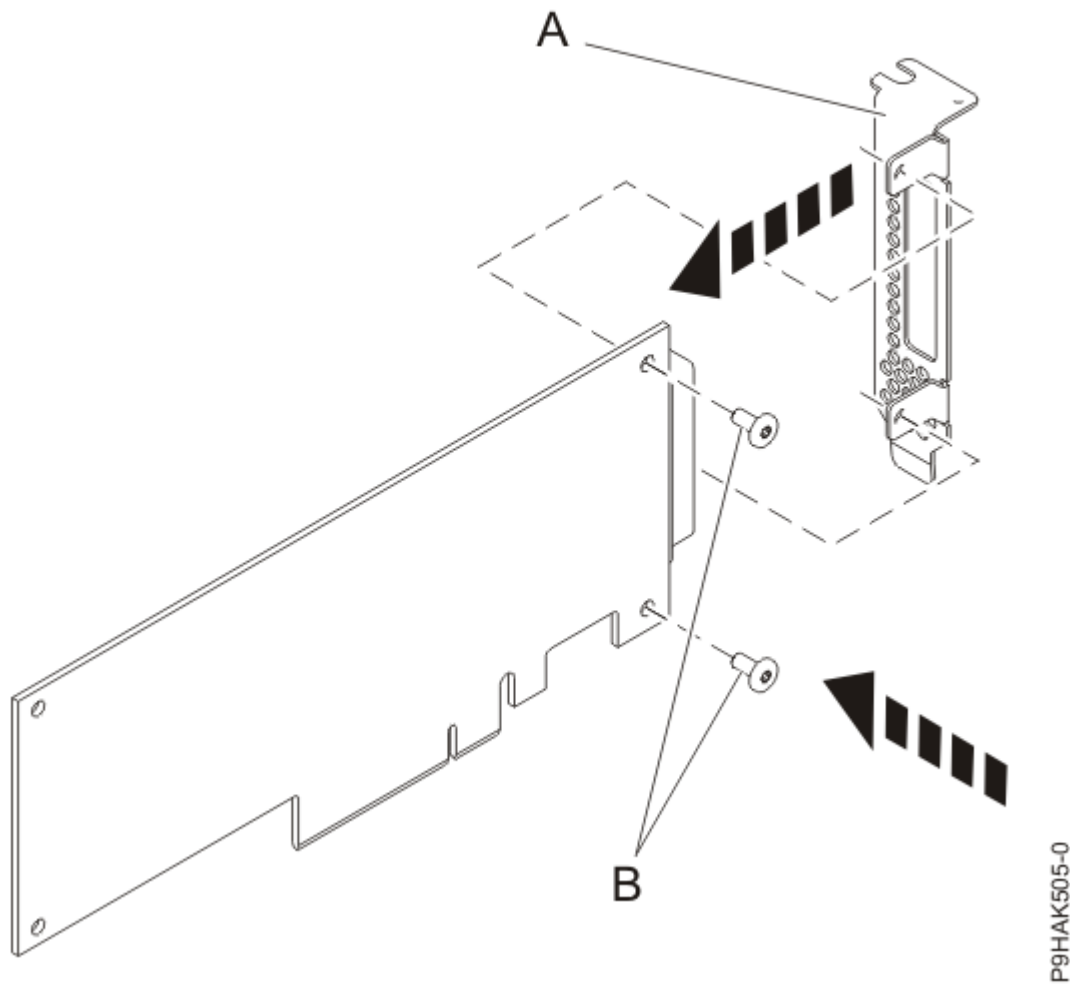

Figure 21. Attaching the low-profile tailstock to an adapter
14. Using a Phillips screwdriver and the two retaining screws (**B**), attach the tailstock (**A**) from the failed adapter onto the new adapter, as shown in Figure 21 on page 27.